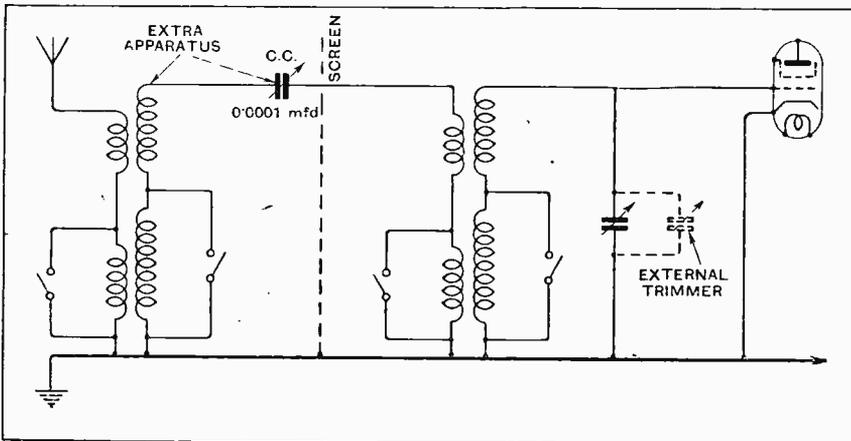

Fig. 2—Extra tuned aerial circuit added to an existing receiver.
On the whole, we doubt if you could better the arrangement suggested in Fig. 2. In order to compensate for disturbance of tuning due to variations of coupling capacity, etc., it is suggested that an external trimming condenser should be joined across the input tuning condenser of the receiver itself.
adopted for the instrument now described is shown in Fig. 2. The details of the various components and the reasons for their use are as follows:—(V) The valve. This must be such as to give square-law rectification over the range of anode current change indicated by the galvanometer. Modern 2-volt power valves will satisfy this requirement for anode current changes of two to three hundred microamperes, corresponding to alternating voltages of 1.0 to 1.5 volts. The valve used in the present instance is a PM252: (VA) Anode battery. Any good-quality dry battery of about 15 volts can be used. As the current is very small, less than half a milliampere, a grid bias type of battery will have ample capacity: (VB) 2-volt filament accumulator: (VC) Grid bias battery. Actually about -3 volts is required, and a standard flash-lamp type of grid bias battery can therefore be used: (C1) Anode circuit by-pass condenser. A 0.1-mfd. condenser with mica dielectric is recommended, since it is important that the insulation resistance be very high: (C2) Grid circuit by-pass condenser. The insulation resistance is less important in this case, and a paper dielectric condenser of 1 or 2 mfd. can be used, preferably of the so-called non-inductive type, though this is not essential: (R1) Balancing circuit resistance. With the valve
Fig. 2.—Complete circuit diagram of square-law valve voltmeter. V, PM252 valve; VA, 15-volt H.T. battery; VB, 2-volt accumulator; VC, 3-volt grid bias battery; C1, 2 mfd.; C2, 0.1 mfd.; R1, 20,000 ohms; R2, 10 ohms; R3, 100 ohms; G, galvanometer; 0 - 120 microamps.